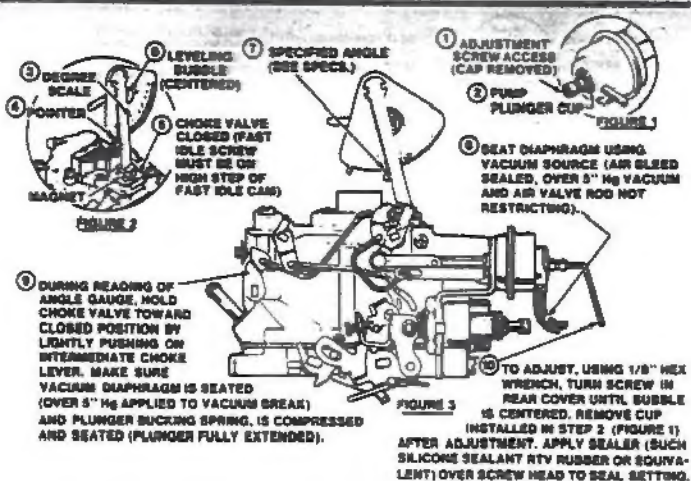

Fig. 13 Primary vacuum break adjustment. 1981-82 E25E carburetor
1. Rotate degree scale until zero is opposite pointer, then with choke valve completely closed and fast idle screw on high step of fast idle cam, place magnet squarely on top of choke valve and rotate bubble until it is centered, Fig. 13.